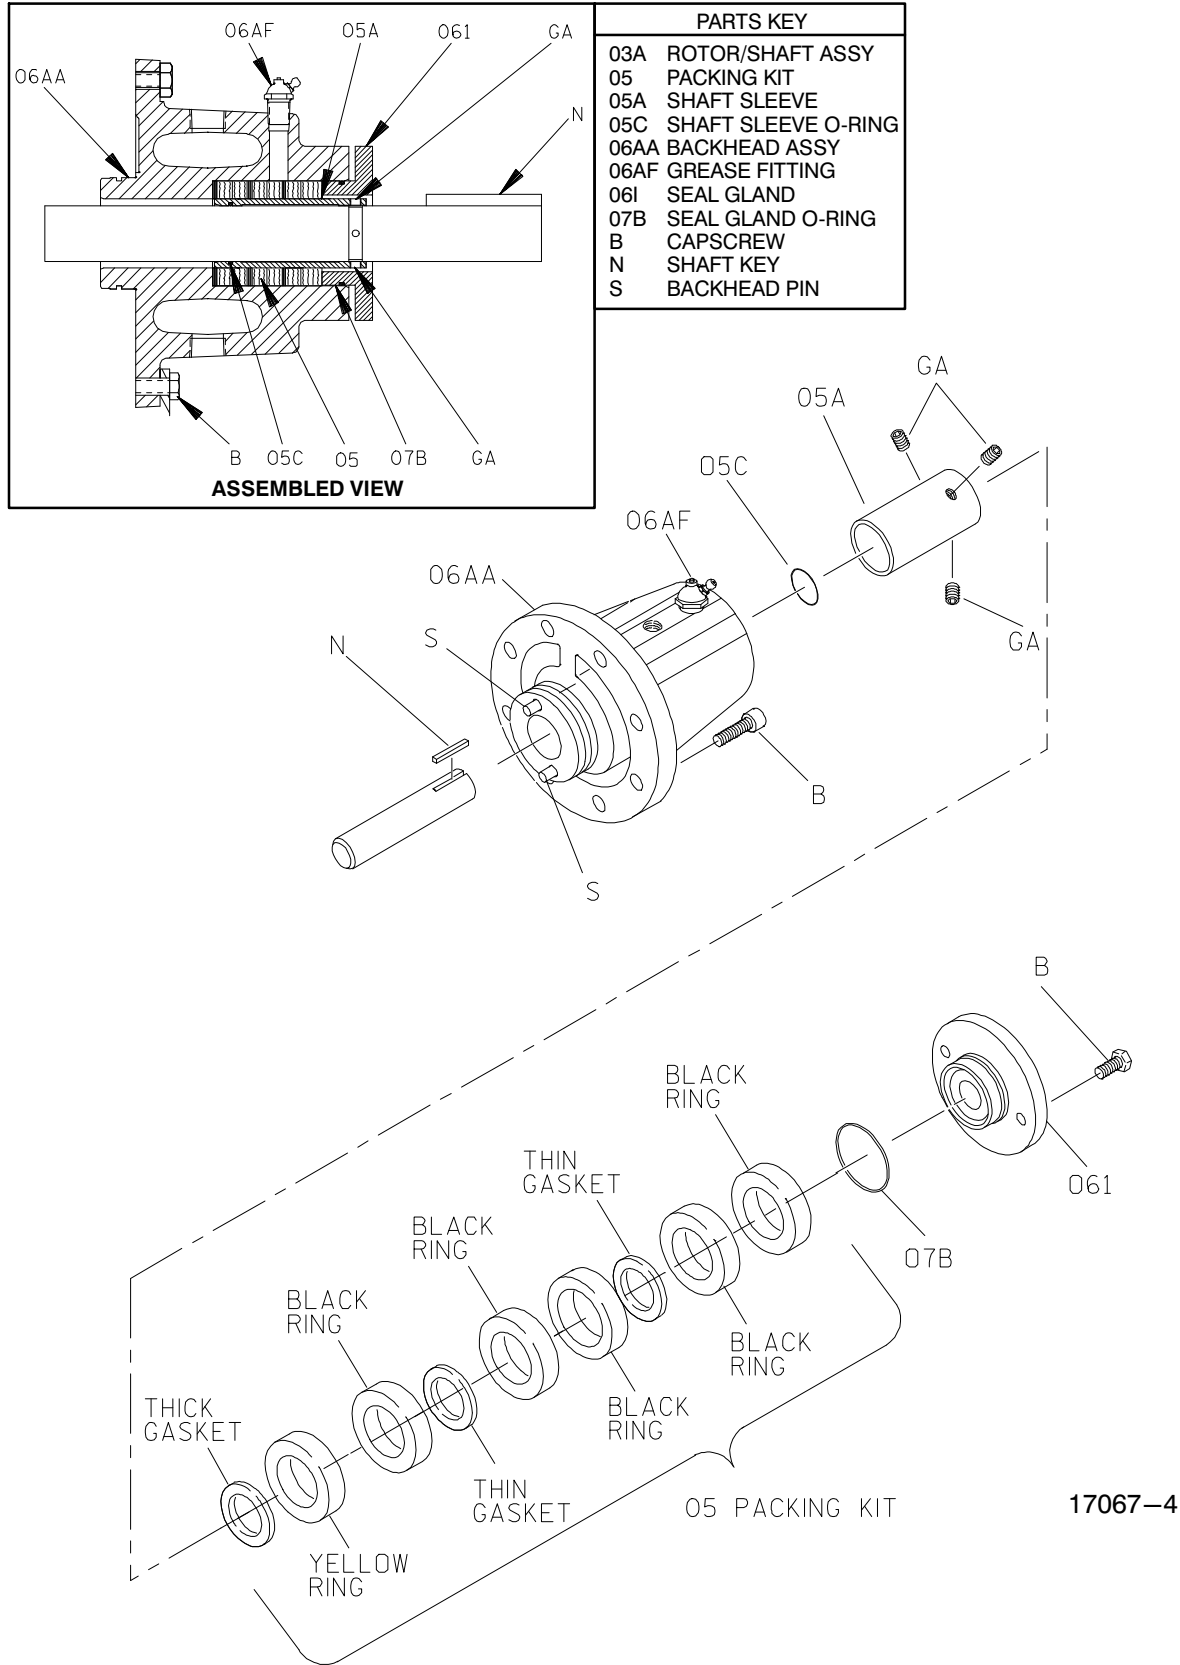

Figure F-3. Standard 65S Minimum Leak Packing Seal
The gaskets and packing rings should be arranged in the packing kit (05) in the order shown in Figure F-3. This arrangement is critical. Check to confirm the arrangement of the packing kit components before installing them in the backhead.
Lubricate the new packing rings with non-detergent oil before installation. For best performance, do not stretch or separate packing braids. Push each packing ring through the backhead assembly (06A) into the seal bore and compress it using a blunt ended sleeve (split in half, same diameter as the seal gland) and mallet. Make sure to install the gaskets (thick or thin) in the position shown in Figure F-3. Compress and rotate each successive packing layer by 90° to prevent excessive leakage.